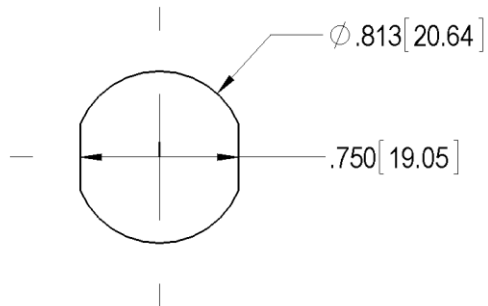

Figure 3 (not to scale)
5.3.5.Mount the switch buy cutting a mounting hole to meet these dimensions, shown in Figure 3. Extension wires are available. Contact WPT for standard options.